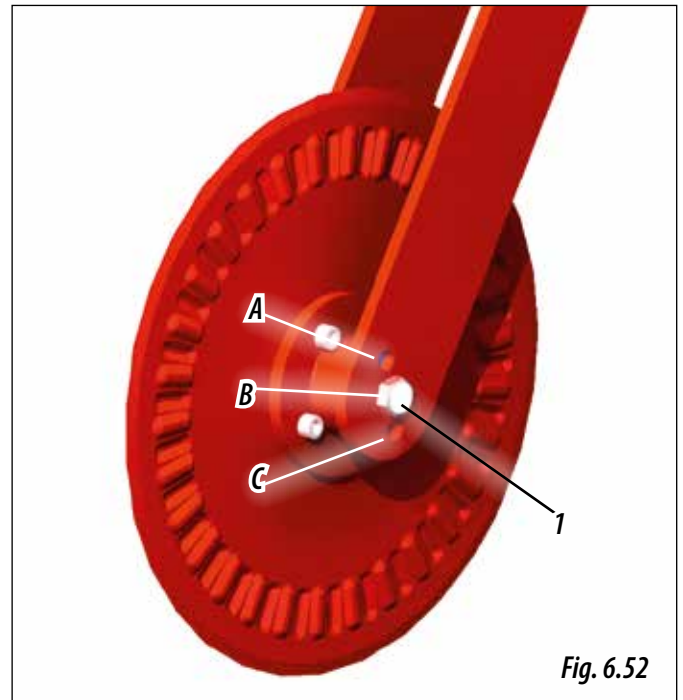

Fig. 6.52
- 1- Remove the nut (1, Fig. 6.52), hold the disc with one hand and use the other one to remove the screw.